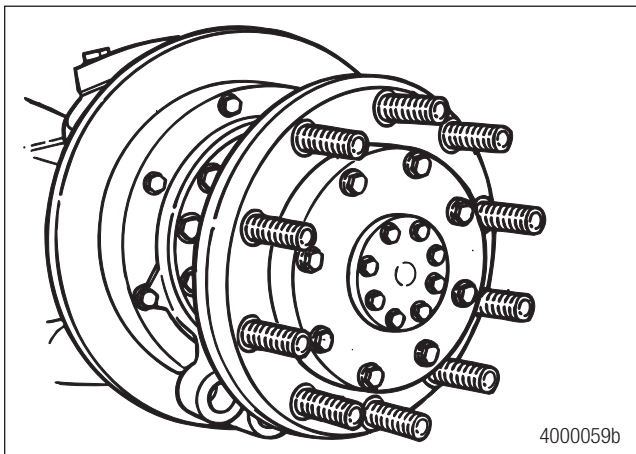

Figure 7.27
6. Install the hubcap and tighten the capscrews to specification. Refer to Section 12 Specifications on page 77. Figure 7.27.